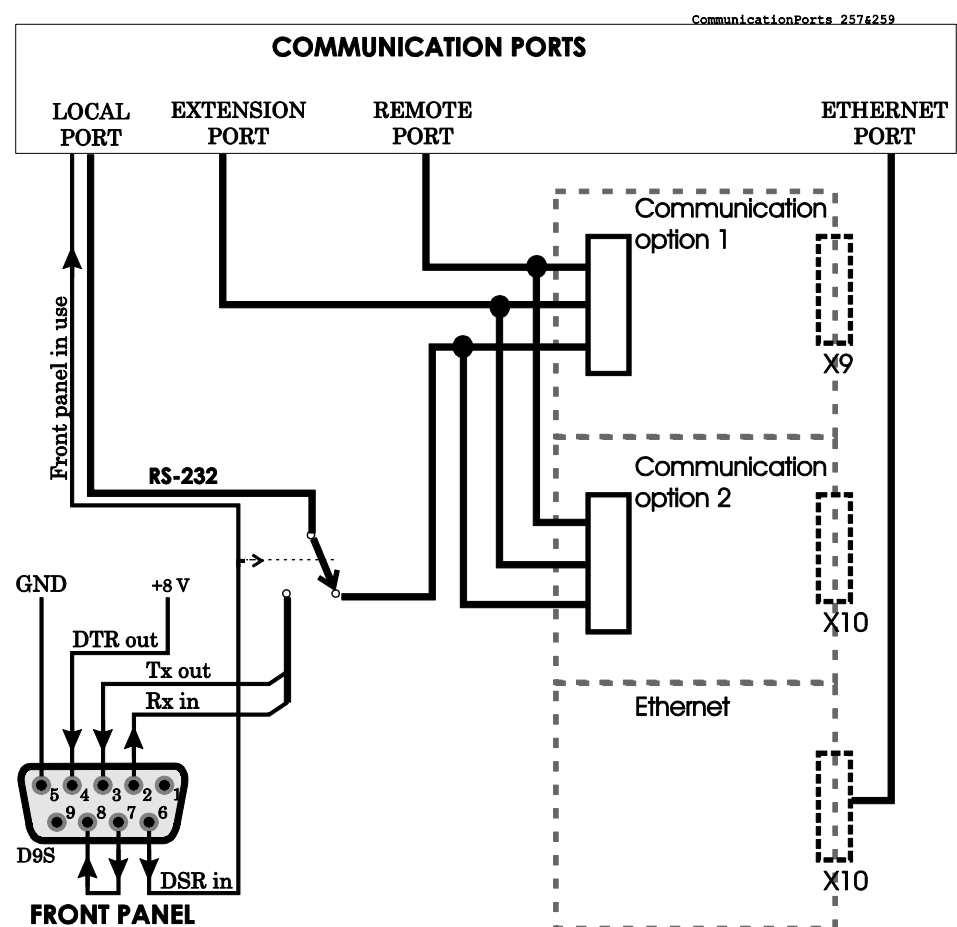

Figure 6.1-1. Communication ports and connectors. The type of connectors X9 or X10 depends on the type of the communication option (see chapter 8).
There can be up to three communication ports in the rear panel. The front panel RS-232 port will shut off the local port on the rear panel when a VX003 cable is inserted. See Figure 6.1-1 and chapter 8.
**NOTE!** When the VX003 cable is inserted to the front panel connector it activates the front panel port and disables the rear panel local port by connecting the DTR pin 6 and DSR pin 4 together. See Figure 6.1-1.
The physical interface of this port depends of the communication letter in the order code. See Figure 6.1-1, chapter 8, chapter 12 and the table below. The TTL interface is for external converters and converter cables only. It is not suitable for direct connection to distances more than one meter.
This is a RS-485 port for external I/O devices. The physical interface of this port depends on the type of communication modules. The port is located in the rear panel connector X9 or X10. See Figure 6.1-1 and chapter 8.